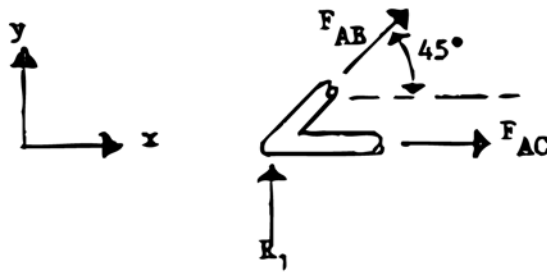

FIGURE I.4
- 3) The joints: The forces applied to the joints come from the applied loads and from the bar forces. For example, the joint A in the truss for this lab is acted on by the reaction force R_1 as well as the two bar forces F_{AB} and F_{AC} . A free body diagram of joint A is shown in Fig. I.4.